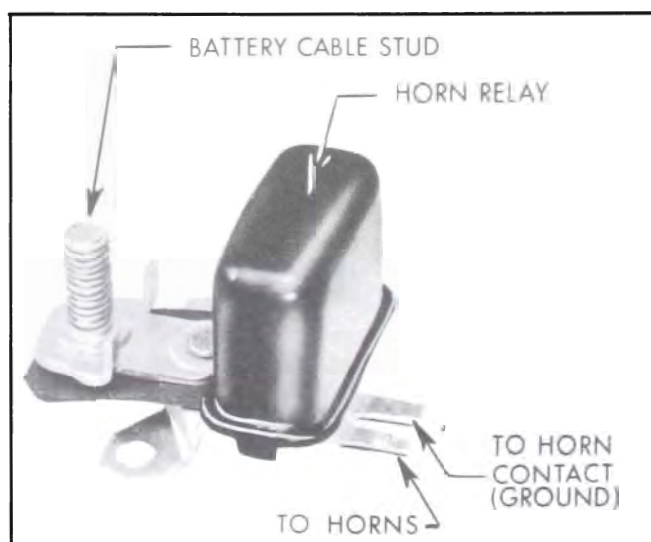

Figure 10-56—Horn Relay and Junction Block Assembly
3. If horns still do not blow when wire at mast jacket is grounded, unplug double connector from horn relay part of junction block assembly which is mounted on right wheelhouse. See Figure 10-56. Then plug a known good relay and junction block assembly onto the connector and press battery terminal of new assembly against old junction block battery terminal stud for a source of current. Have helper try blowing horns. If horns blow, original relay is defective and must be replaced.